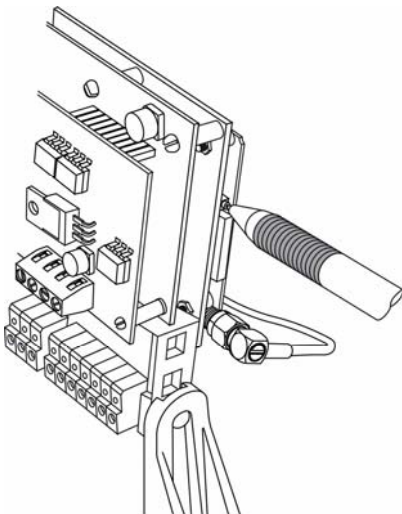

Figure 17 – SIM holder opening
- Open the SIM holder, by pressing with the point of a pencil the button on the holder side (figure 17).